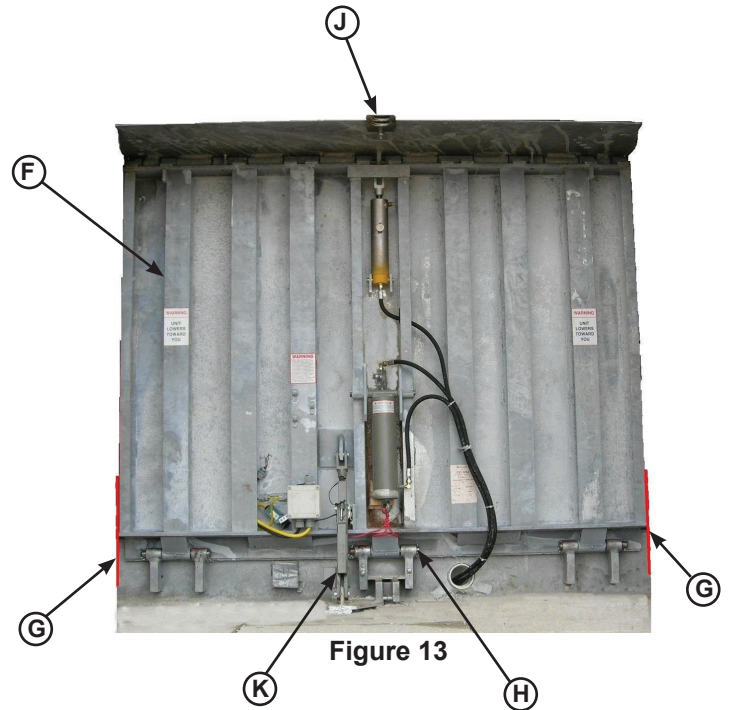

Figure 13
1. Lube the three rear hinge pins (H) using grease, then install the three pins in the rear embed only halfway through the first hinge tube.
- Insert the hinge pins. Work across the dock leveler, installing one side, then the center, and finally the other side. See **Figure 13.**